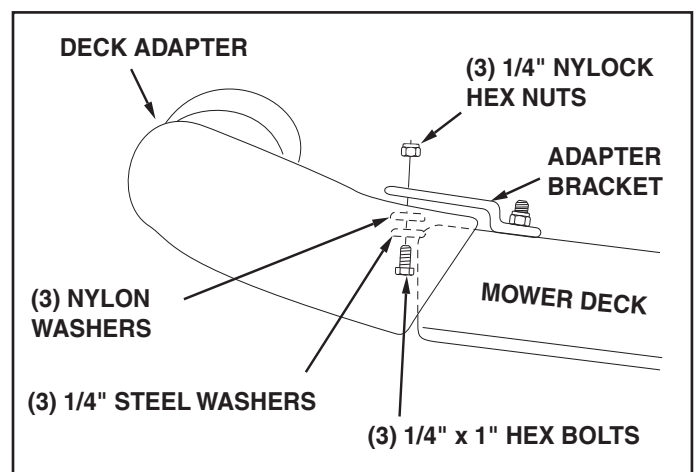

FIGURE 17
8. With deck adapter positioned correctly over the discharge opening, use the adapter bracket as a template and drill three 9/32" diameter holes in the top of the deck adapter. See figure 17.
9. Bolt deck adapter to bracket using three 1/4" x 1" bolts, nylon washers, 1/4" flat washers and 1/4" Nylock hex nuts. Nylon washers should be against the inside of the deck adapter. See figure 17.